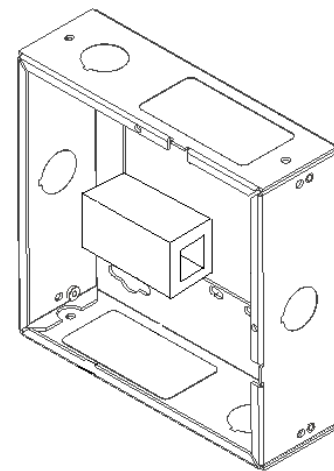

Figure 2 - Surface Mount Box Installation (not included)
If no data outlet is available, the base can be surface mounted directly to a wall or ceiling using screws (not supplied) inserted into the four (4) keyhole openings located on the outer corners of the base. First, remove the knockout to provide a place to bring in the Ethernet cables. Use the base to mark the screw locations on the wall or ceiling and attach the base. A surface mount box or biscuit jack and equipment cord can be mounted inside the Model 900. Use an adhesive backed surface mount box. Consider bend radius of permanent link cable and equipment cord when attaching surface mount box. (Ref. Figure 2)